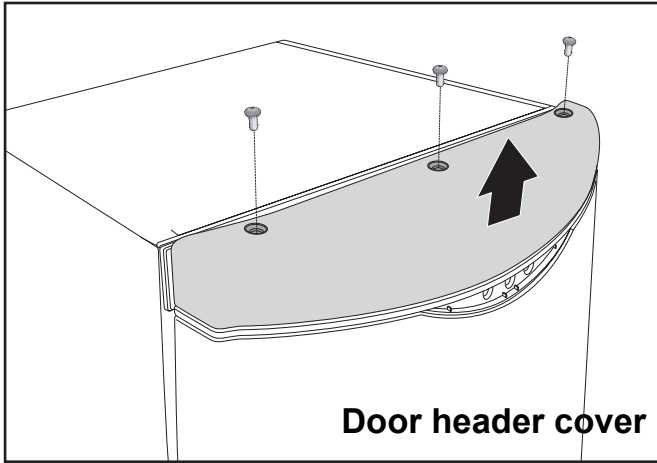

Fig.1
2. Working from the top of the appliance, remove the screws from the door header cover. Remove the cover *Fig.1*